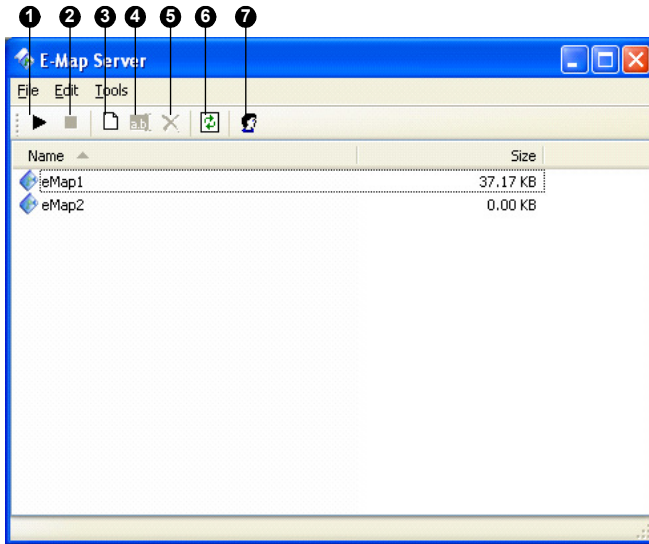

Figure 9-14
1. Click the **New** button (No.3, Figure 9-14) to create e-map(s). For details on creating an e-map file, see *Creating an E-Map File* earlier in this chapter.
2. Click the **Accounts** (No. 7, Figure 9-14) button to create a user account that will use the server.